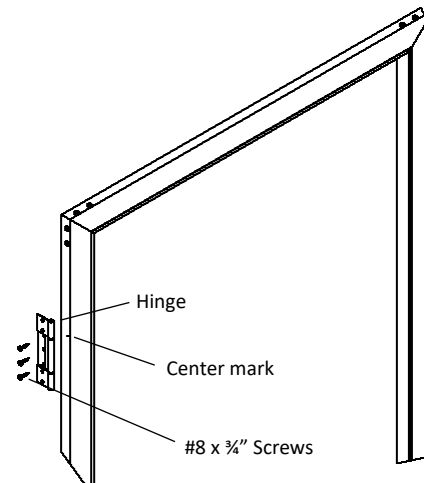

Fig. 4
- Attach top hinge to door using small centering mark  $9\frac{1}{16}$ ” from top of door designating top hinge center screw location. (Fig. 4) NOTE: Door may be installed with screen retention grooves toward inside or outside, left or right hand hinged. Use only center portion of hinge to attach hinge to door. (This portion of hinge is contoured to fit into outer edge of doorframe.) Install (3) #8 x  $\frac{3}{4}$ ” self-tapping screws per hinge. Do NOT fasten center or bottom hinge to door at this point. Do NOT over tighten screws.
- Attach top hinge to door using small centering mark 9\_1/16" from top of door designating top hinge center screw location. (Fig. 4) NOTE: Door may be installed with screen retention grooves toward inside or outside, left or right hand hinged. Use only center portion of hinge to attach hinge to door. (This portion of hinge is contoured to fit into outer edge of doorframe.) Install (3) #8 x 3/4" self-tapping screws per hinge. Do NOT fasten center or bottom hinge to door